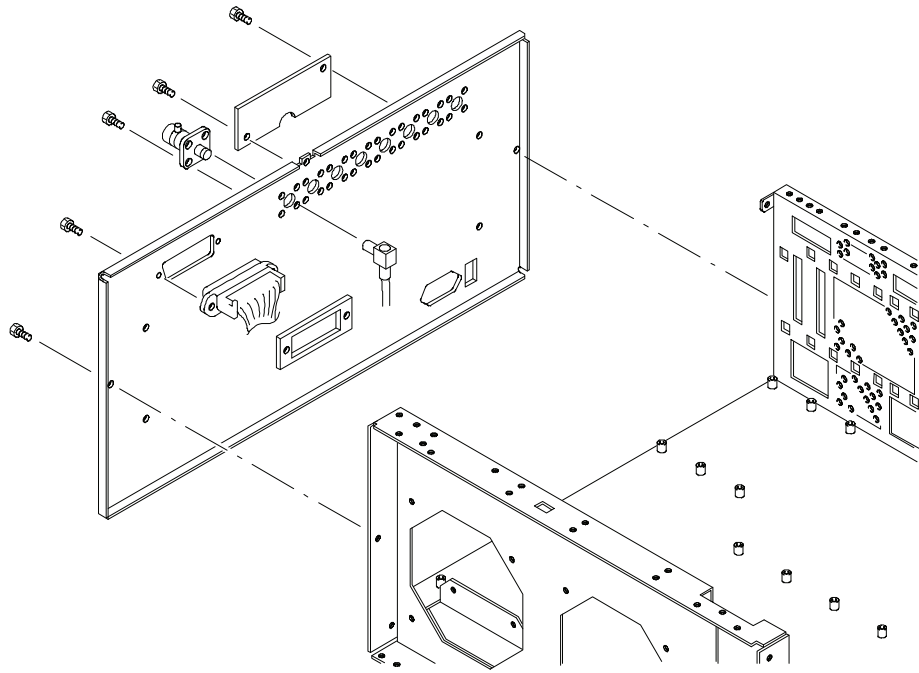

Figure 5-31: Rear panel modules
3. *Remove the SMB-BNC connector:* See Figure 5-31.
4. *Remove the GPIB connector:* See Figure 5-31.